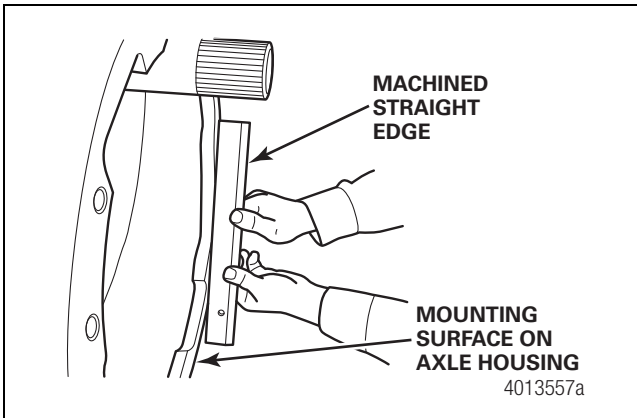

Figure 4.7
6. Check the flatness of the carrier and axle housing mating surfaces as follows. Place a good machined straight edge against the carrier or housing mating surface and try to insert a feeler gauge to check for a gap of 0.003" (0.076 mm) or greater. Figure 4.7.